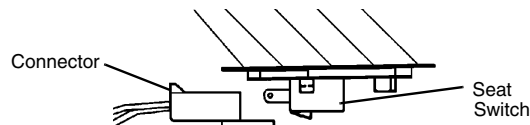

FIG. 5
- Connect the operator's seat switch connector on to the switch located on the bottom of the seat. Insure the connector locks onto the switch body. (See FIG. 5)